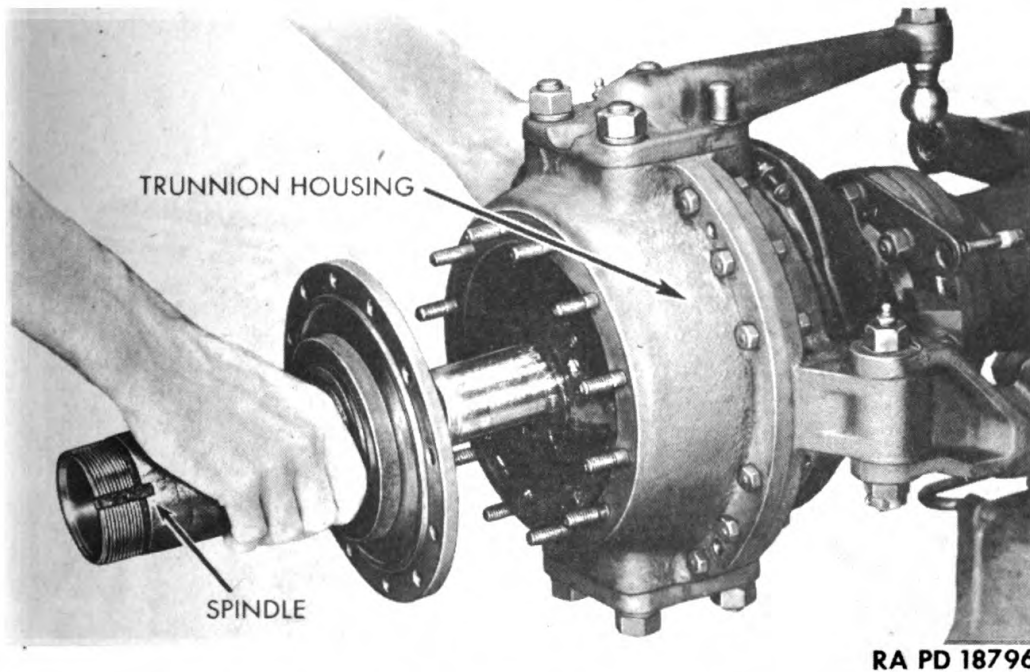

Figure 29 — Removing Front Axle Wheel Spindle
f. Remove Wheel Spindle. Remove wheel spindle from studs and from trunnion yoke housing (fig. 29). Tapping with a lead hammer will facilitate separating spindle from housing.